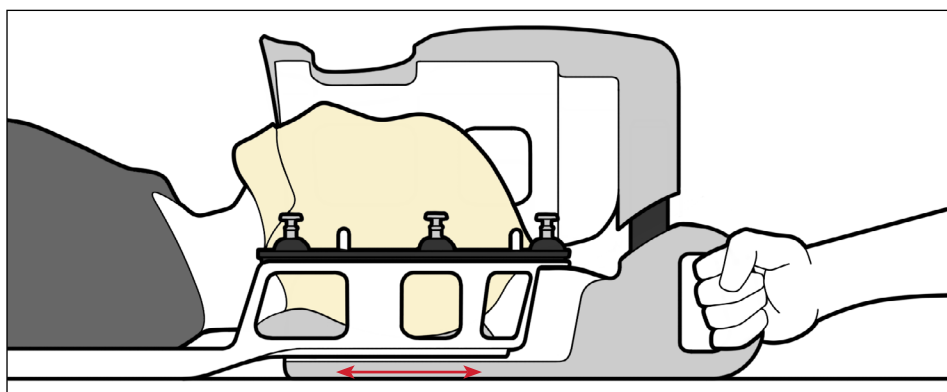

Figure 8
8. Align top of Patient Viewing Window with top of orbital ridge. If the area of interest is superior, slide coil superiorly. If the area of interest is inferior, slide the coil inferiorly (Fig. 8).